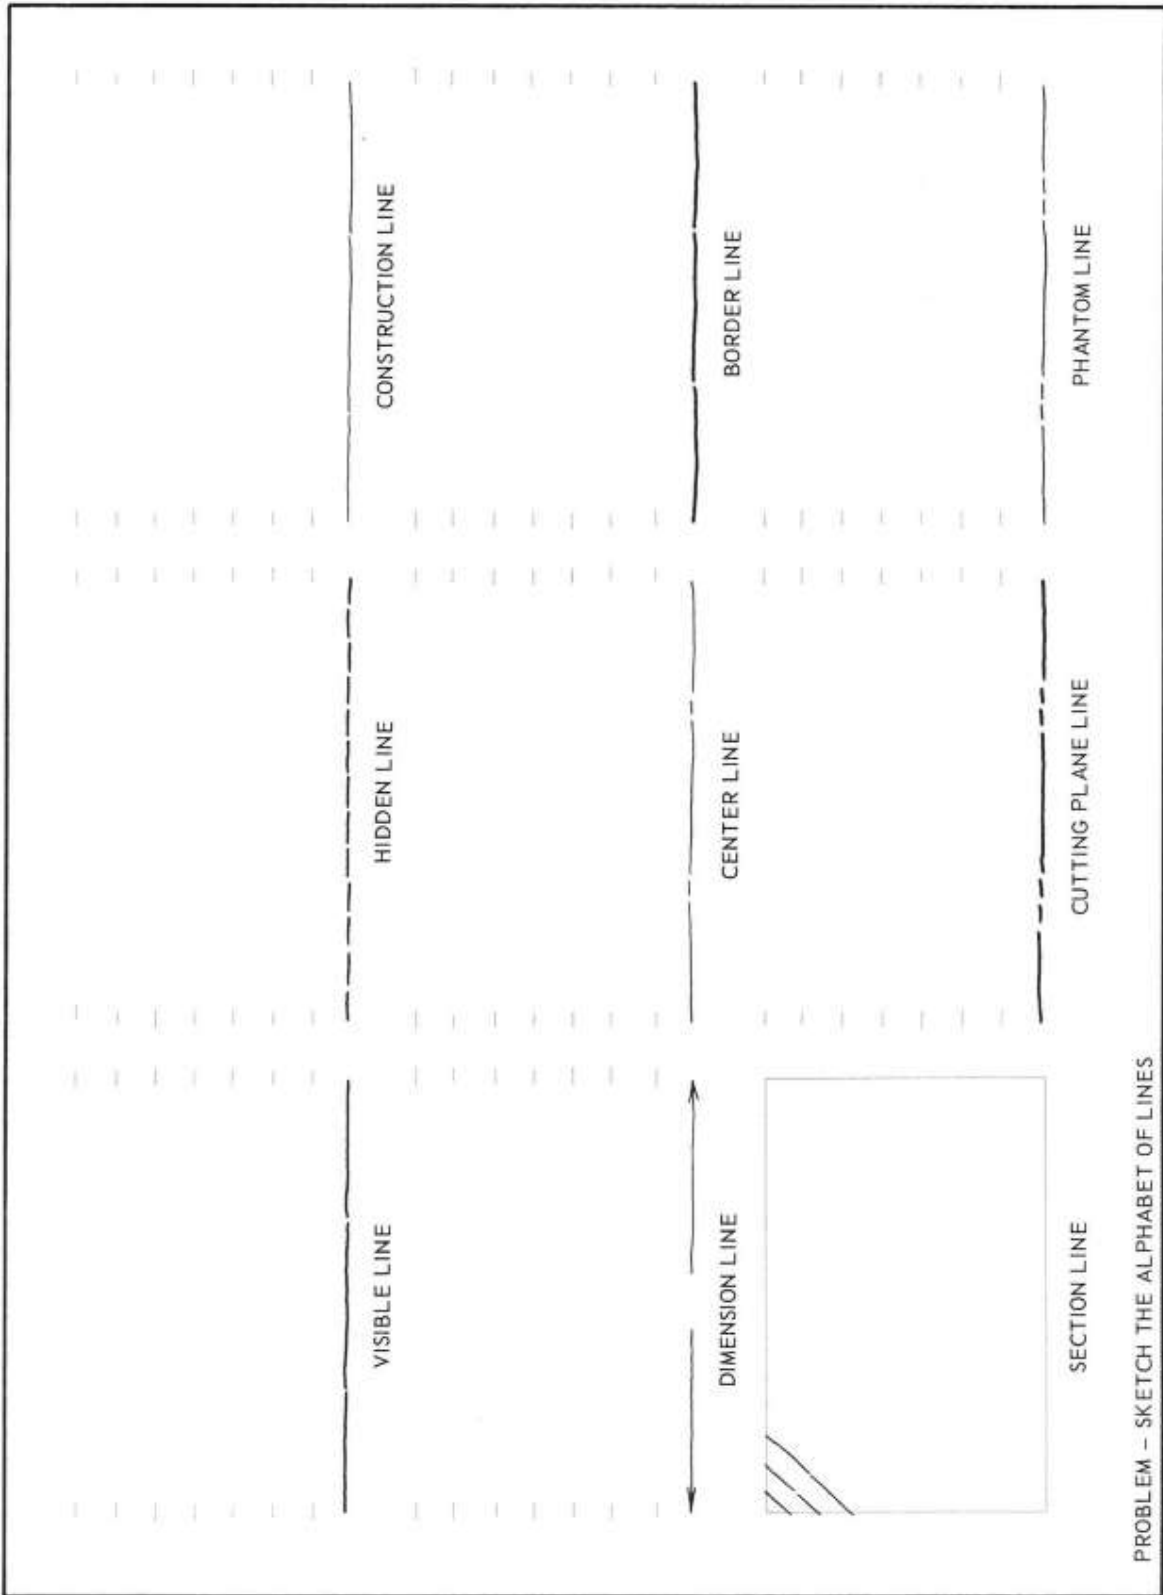

Fig. 1
2. Draw and fill each box with the respective given sample alphabet of lines. See Figure 1 below.